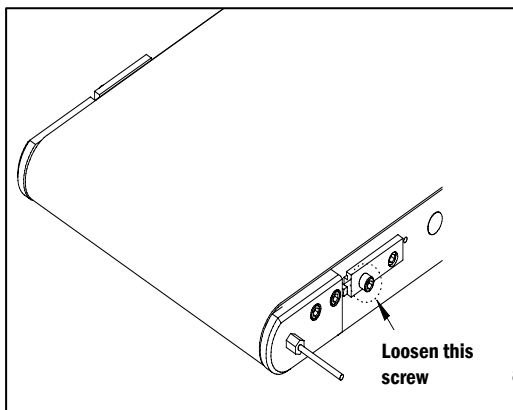

Figure 1
a. Loosen the 5/16" Socket Head Screw in the Tracking Block that is closest to the Driver Assembly (DO NOT loosen the second screw or the conveyor may need to be re-tracked) (Figure 1).